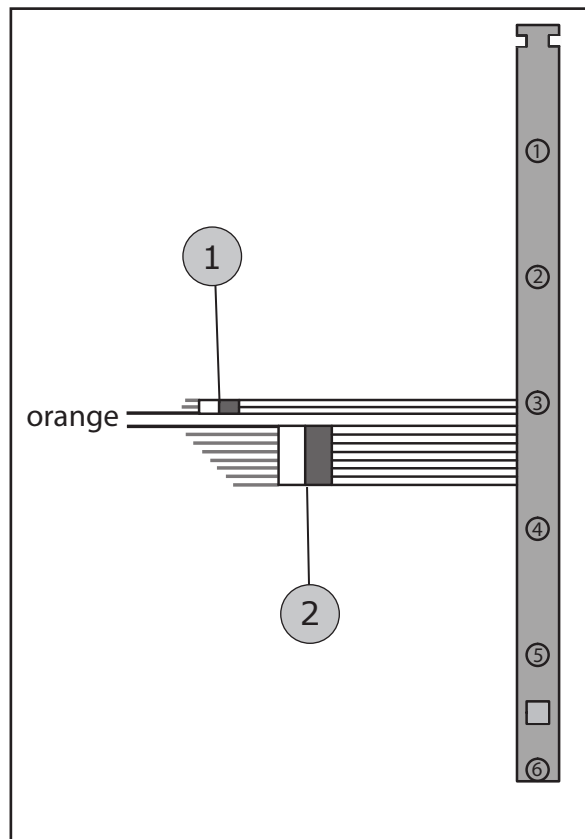

Figure 42
2. Disconnect the connection for LED (1, figure 42) and the keypad (2).
6. Ensure that the flat strip cables are not twisted and connect them to the contacts, as per figure 42.